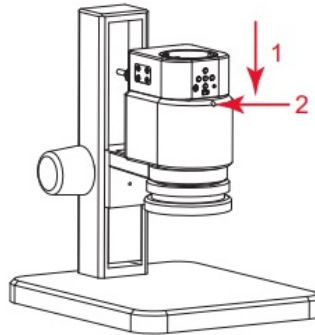

Figure 2
1. Snap the HDMI embedded camera to the objective end of the microscope, oriented as in Figure 2;